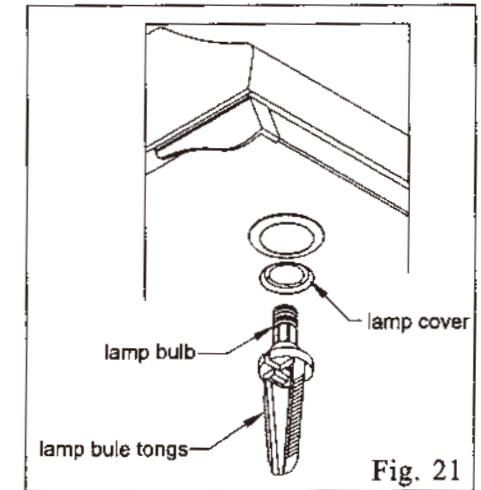

Fig. 21
- Turn the lamp cover counterclockwise and use lamp bulb tongs to turn the lamp bulb off counterclockwise (Fig.21).